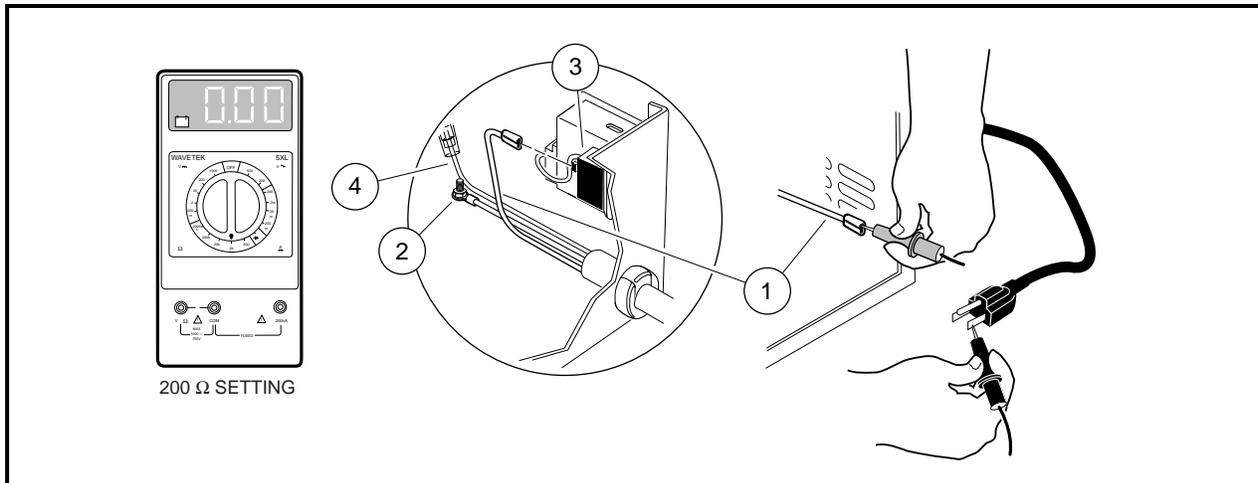

Figure 14-18 AC Cord and Plug
Check continuity of the AC cord (**Figure 14-18, Page 14-17**).
2. Disconnect black wire (1) of AC cord from charger AC circuit breaker (3) (**Figure 14-18, Page 14-17**).
3. Disconnect green wire (2) from charger case and position it so it does not touch any metal part of the charger (**Figure 14-18, Page 14-17**).
4. Using a multimeter, set for 200 ohms, place the red probe on the terminal at the end of the black wire (1) (**Figure 14-18, Page 14-17**). Test for continuity on each of the flat blades and then on the round blade of the AC plug. If continuity registers on more than one blade, or on no blade, the AC cord and plug must be replaced.
5. Put the red probe on the end of the green wire (2) and with the black probe check for continuity on both flat blades and on the ground pin of the AC plug (**Figure 14-18, Page 14-17**). Tester should register continuity on only the ground pin. If continuity registers on either of the flat blades, or does not register on the ground pin, the AC cord and plug must be replaced.
6. Disconnect the white wire (4) from the tan wire (**Figure 14-18, Page 14-17**). Put red probe on the white wire and check for continuity on both flat blades and on the ground pin of the AC plug (**Figure 14-18, Page 14-17**). Tester should register continuity on only one flat blade. If continuity registers on both blades or pin, or does not register on either blade or pin, the AC cord and plug must be replaced.